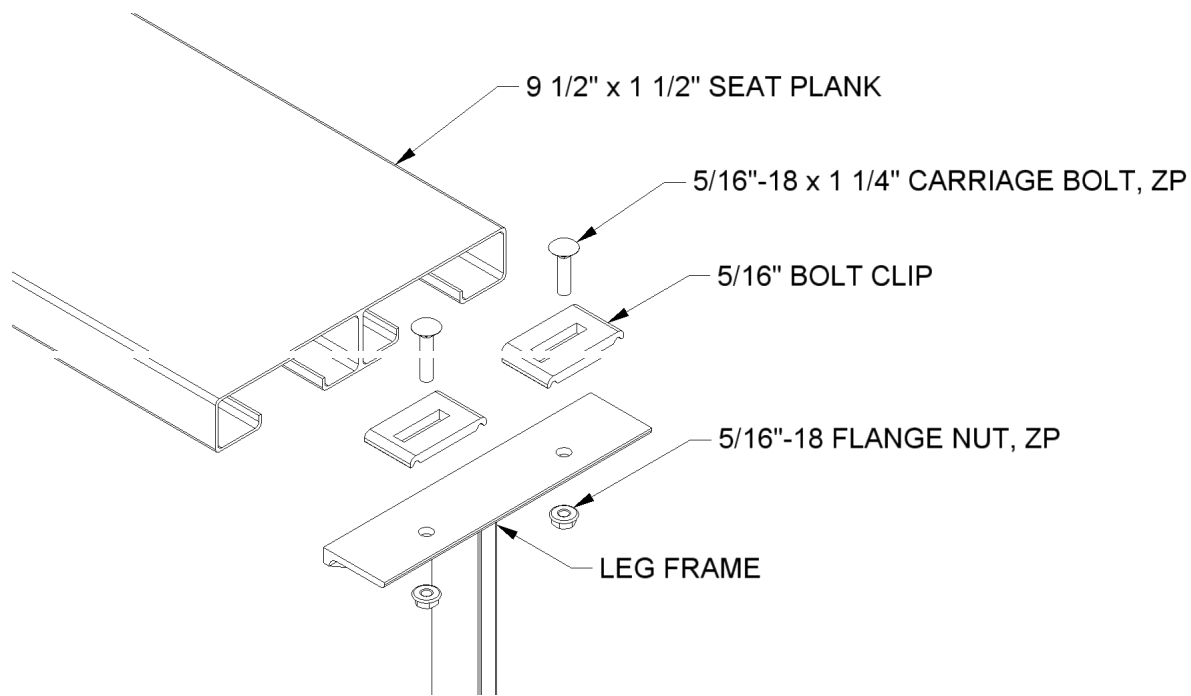
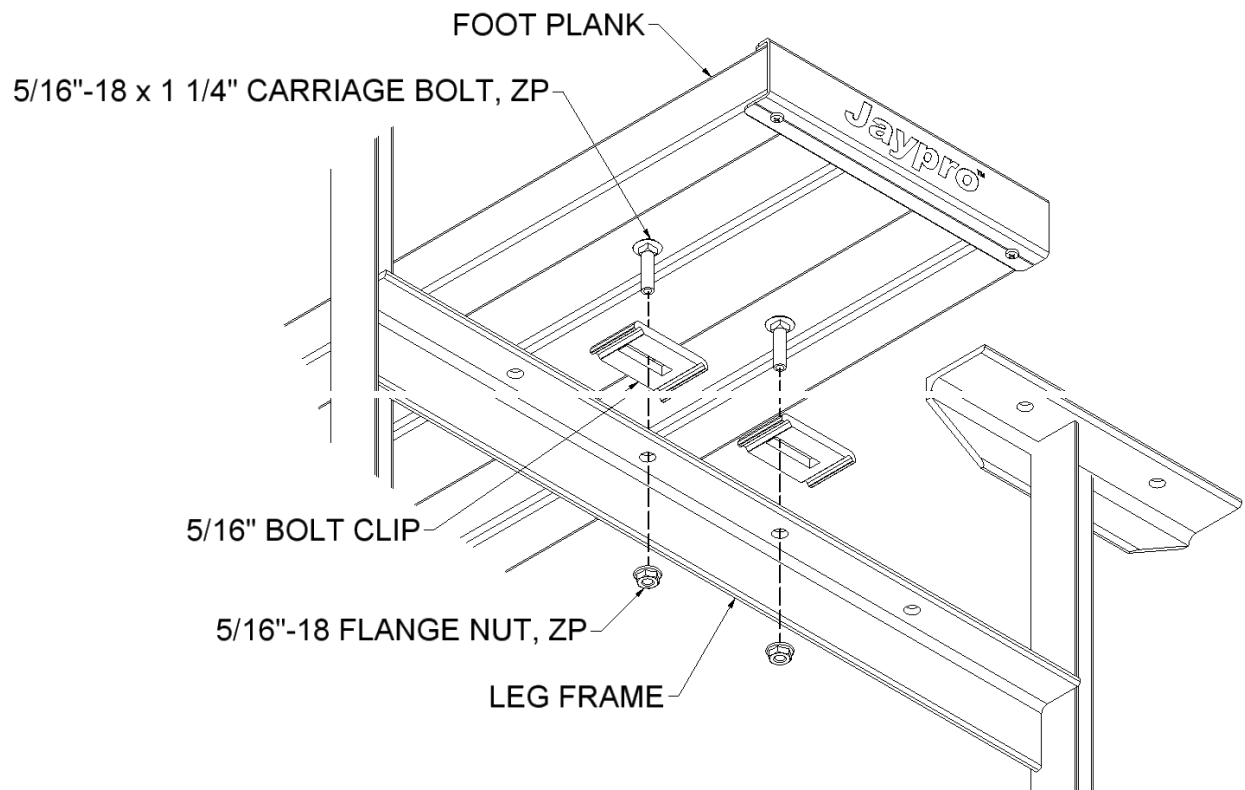
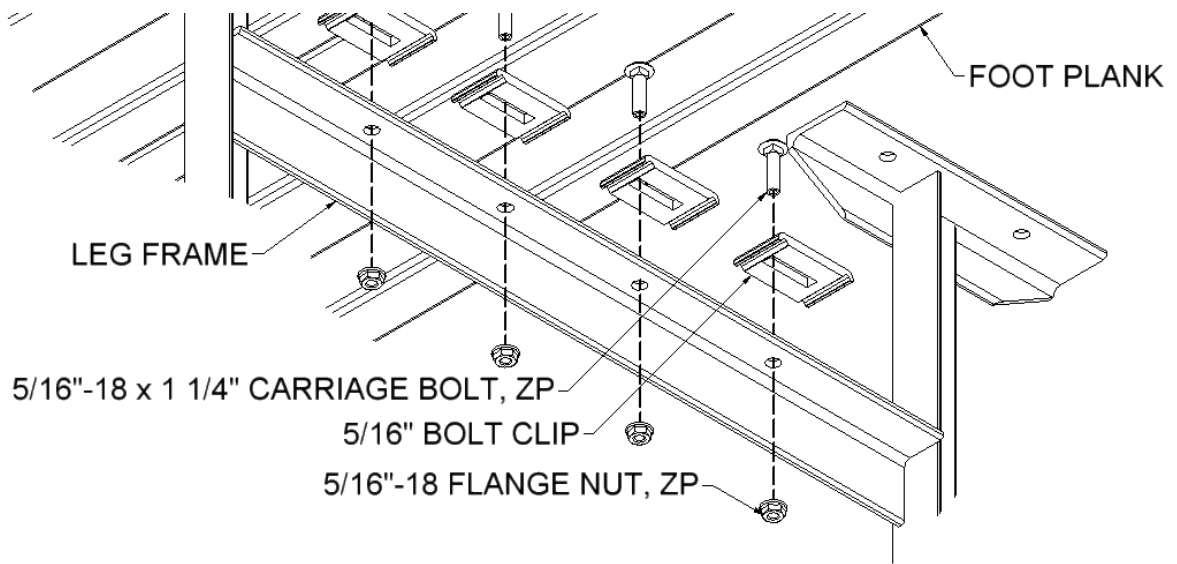

Figure 5
Figure 6 (Single Foot Planks)
Figure 7 (Double Foot Planks)
5. Making sure the undercarriage frame is square and plumb, install the seat and foot planks. The seat and foot planks are best installed starting from the front seat and working towards the back. Use the hardware and bolt clip as shown in figure 5. Position planks so they are centered on the frame, with equal amount of overhang on each end. Note that standard bleachers (BLCH-327AL & BLCH-327TRG) have a single foot plank, which is centered on the support frame, see figure 6. Preferred bleachers (BLDP-327AL & BLDP-327TRG) have double foot planks and are installed as shown in figure 7.